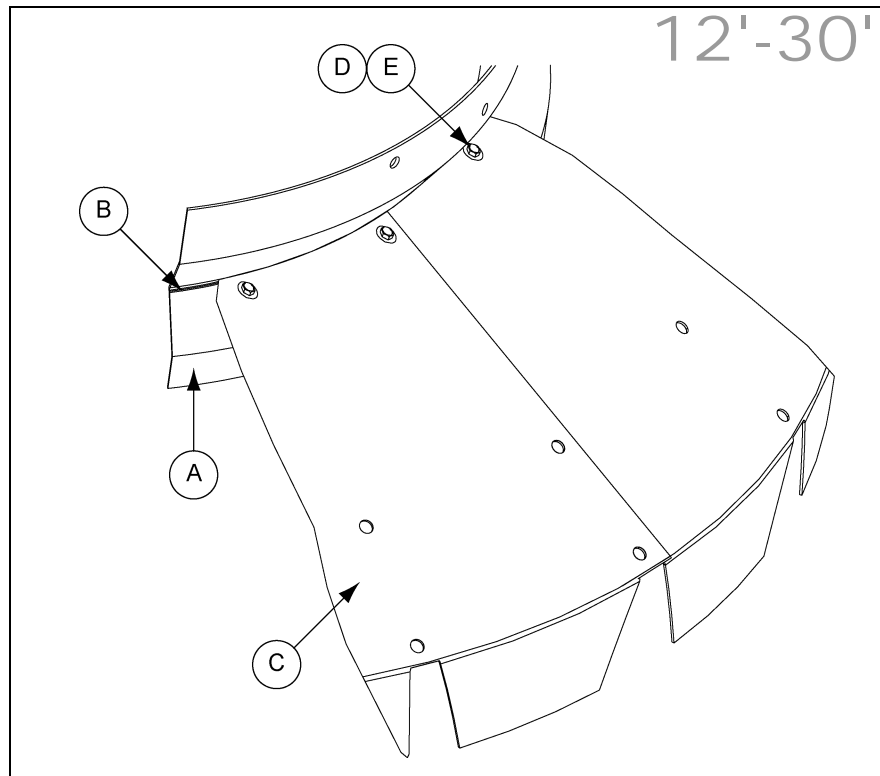

Figure 9D Roof Flashing (for 12'-30' Diameter Bins)
1. Prior to the assembly of the roof and center collar, position the flashing (C) to ensure the cap hold-down is in line with the roof ladder.
2. Apply caulking (B) to the center collar (A) where the flashing (C) will be placed.
3. Assemble the flashing (C) pieces together with the center collar (A) using flange bolts (D) and flange nuts (E). (See Figure 9D.)